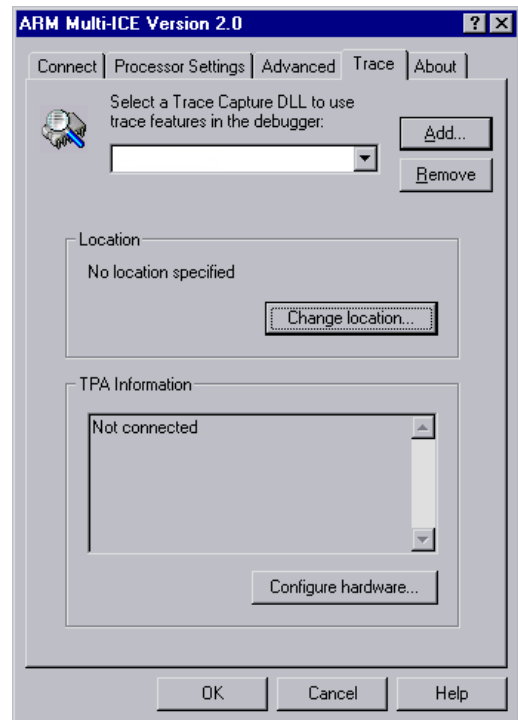

Figure 3-1 Trace tab
- a. Click on the **Trace** tab as shown in Figure 3-1.